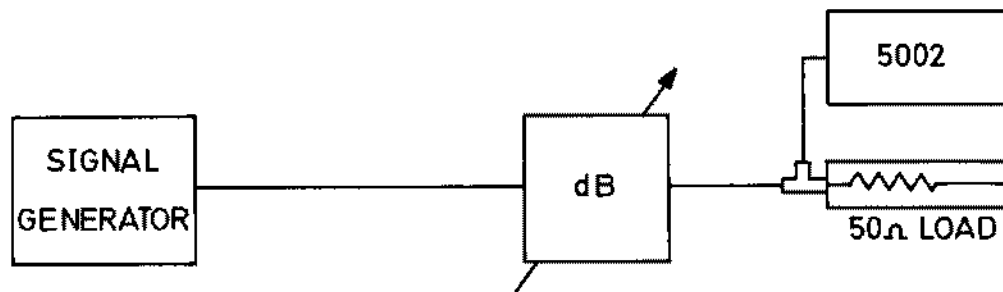

Fig. 6.7 RMS Detector Check, Sinewave
6.5.14.2 Connect the test equipment as shown in Fig. 6.7.